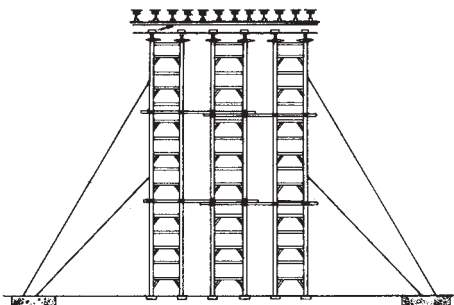

Figure 42-17: High Towers with Guys for Support
- Towers must remain stable during construction and dismantling. Guys or other bracing and supports may be necessary to maintain stability (Figure 42-17).